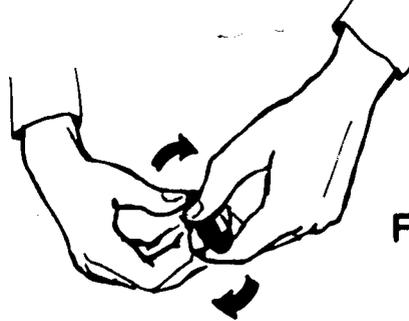

FIGURE 5
1. Hold connector and unscrew locknut (Figure 5)